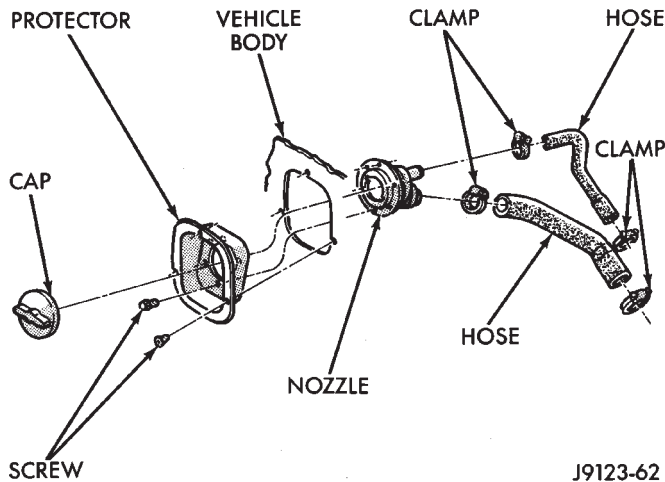

Fig. 16 Fuel Hoses & Clamps
- (1) Disconnect the battery negative cable.
- (2) Disconnect all wire harness connectors that connect body wire harnesses to the frame wire harnesses.
- (3) Loosen the clamps and disconnect the fuel hoses from the filler nozzle (Fig. 16).